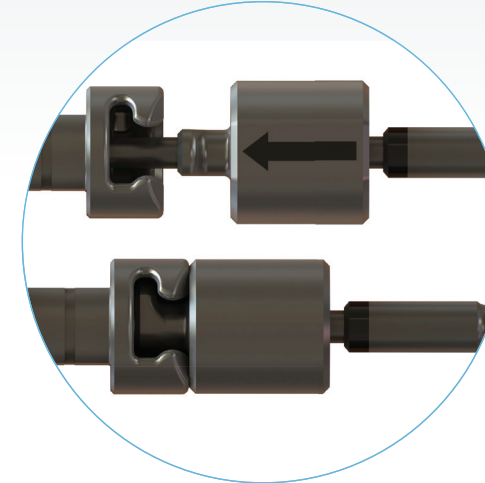

Figure 9
- Insert installer driver into the implant installer and match up arrow with the locking mechanism and turn clockwise to lock into place (Figure 9).